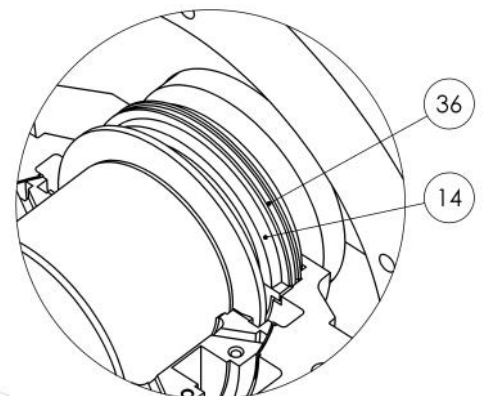

Fig. 27
- Place the upper part of the seal (14) on the lower part (Fig. 27) observing the alignment marking.